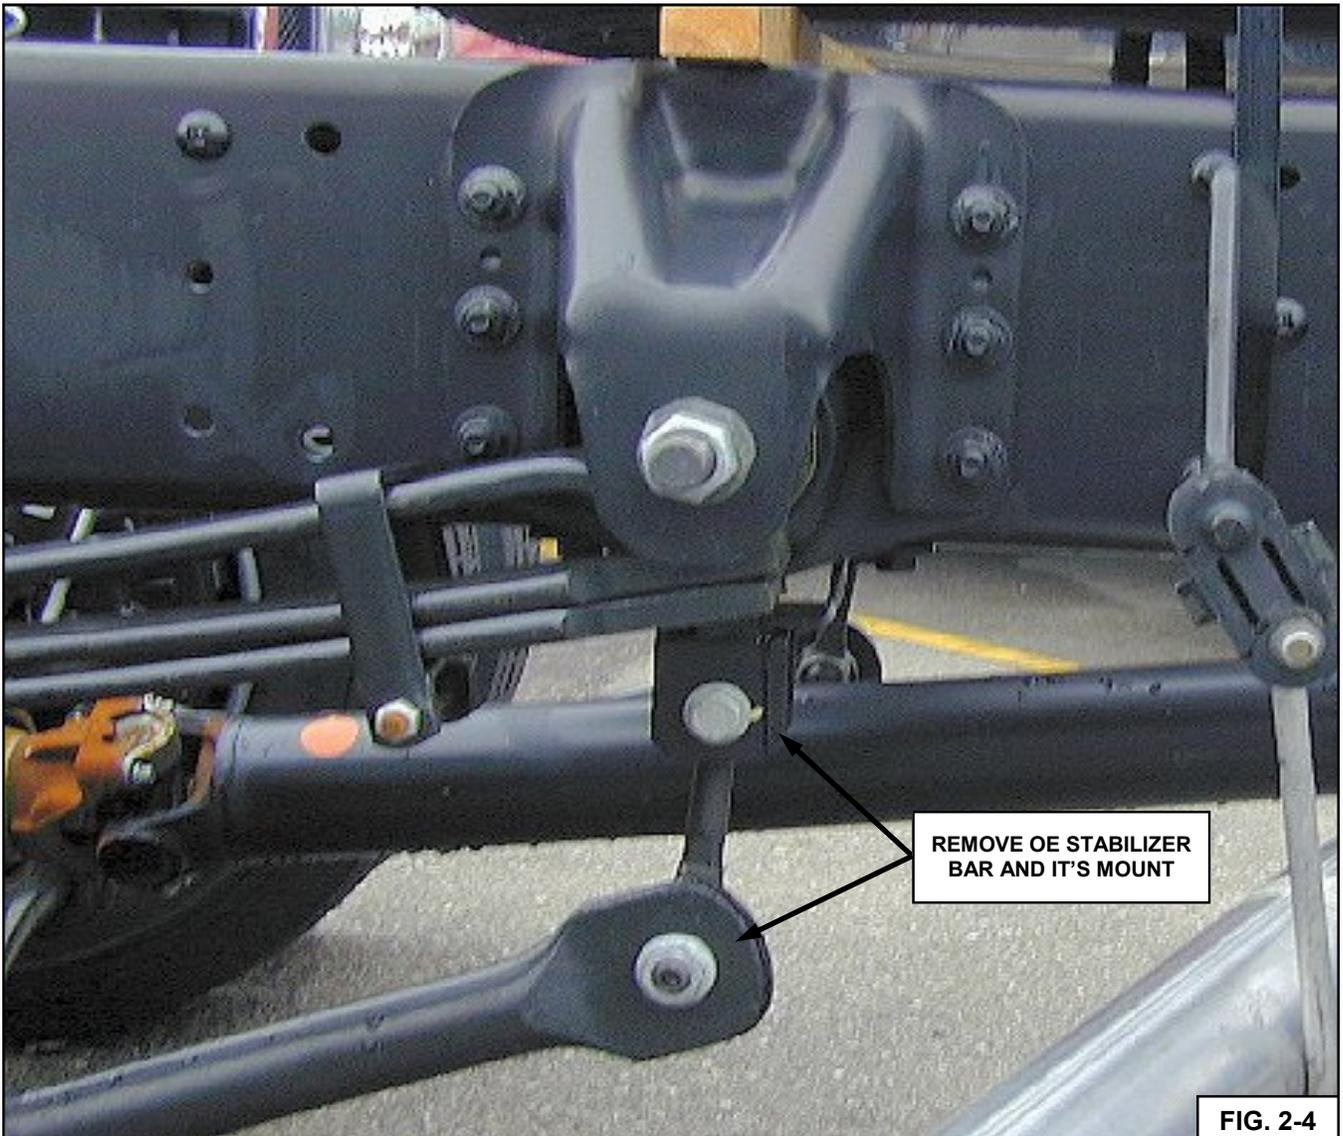

FIG. 2-4
6. Remove **OE Stabilizer Bar**, if present. See Fig. 2-4 for details. The stabilizer bar is not required with the UltraRide suspension. However, if desired, a rear stabilizer bar kit (Part Number 800M1051 for use with Automatic Chains) and a stabilizer bar re-installation kit are available from Link Mfg. (Part Number 800M1044).